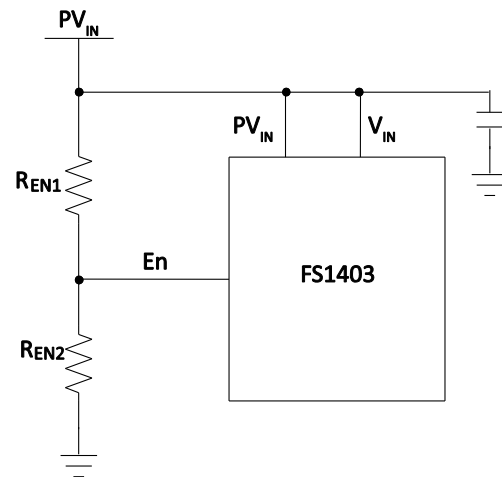
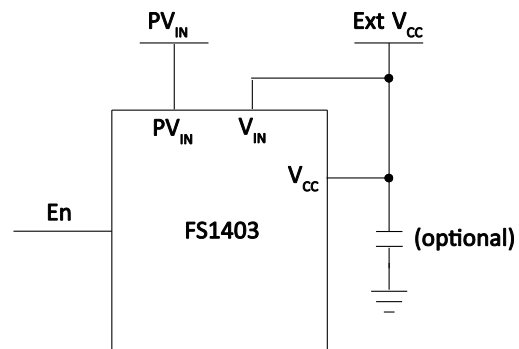

Figure 5 Single supply configuration: internal LDO regulator, adjustable PV_{IN_UVLO}
Figure 6 Using an external bias voltage
The FS1403 has an integrated Low Drop-Out (LDO) regulator, providing the DC bias voltage for the internal circuitry. The typical LDO regulator output voltage is 5.2V. For internally biased single-rail operation, the PV_{IN} pin should be connected to the PV_{IN} pin (Figure 5). If an external bias voltage is used, the V_{IN} pin should be connected to the V_{CC} pin to bypass the internal LDO regulator (Figure 6).
- It can be used to implement a precise input voltage UVLO. The input of the En pin is derived from the PV_{IN} voltage by a set of resistive dividers, R_{EN1} and R_{EN2} (Figure 5). Users can program the UVLO threshold voltage by selecting different ratios. This is a useful feature that stops the FS1403 regulating when PV_{IN} is lower than the desired voltage.